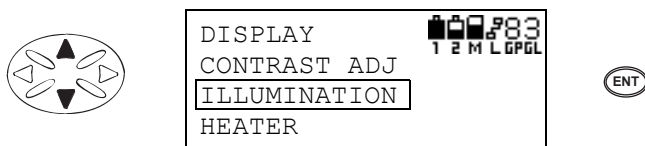

Figure 3-139. Select Illumination Setting
- On the Display screen, use the **up/down cursor key** to select ILLUMINATION and press **ENT** (Figure 3-139).